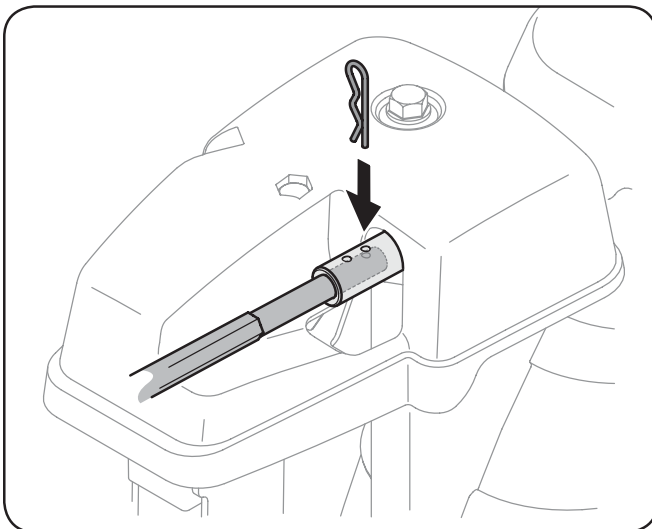

Fig. 3-9
7. Push the hex rod toward the control panel until the hole in the hex rod lines up with the closest hole in the chute rotation assembly and insert the cotter pin. See Fig. 3-9.